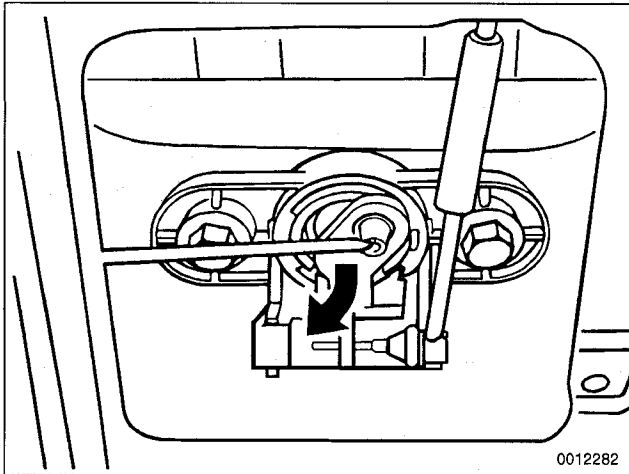

Fig. 17. Pull off luggage compartment lock actuating rod in the direction of arrow.
2. Disconnect actuating rod from lock. See Fig. 17.